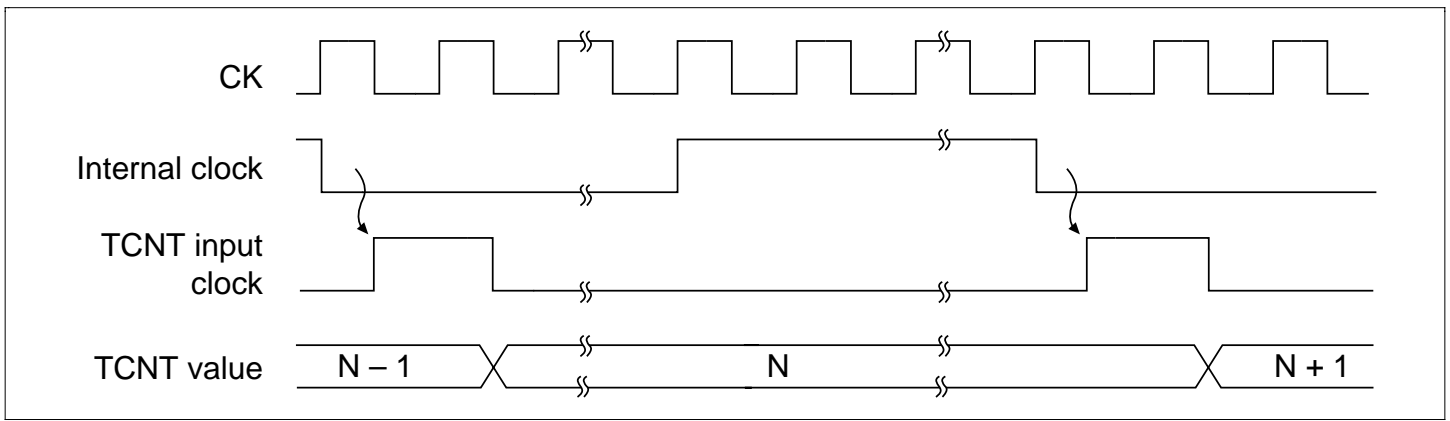

Figure 10.17 Count Timing for Internal Clock Sources
Internal clock source: Bits TPSC2-TPSC0 in TCR select the system clock (CK) or one of three internal clock sources ($\phi/2$, $\phi/4$, $\phi/8$) obtained by prescaling the system clock. Figure 10.17 shows the timing.